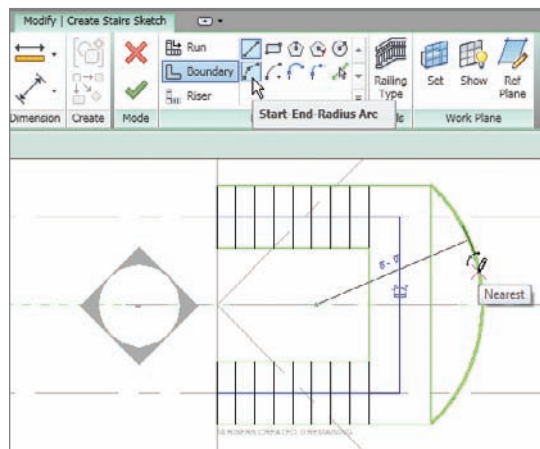

FIGURE 10.8 Add an 8'-0" radius to the outside of the landing.
2. On the Draw panel, click the Start-End-Radius Arc button, as shown in Figure 10.8.
3. Draw an arc on the outside of the landing at an 8'-0" radius, as shown in Figure 10.8.